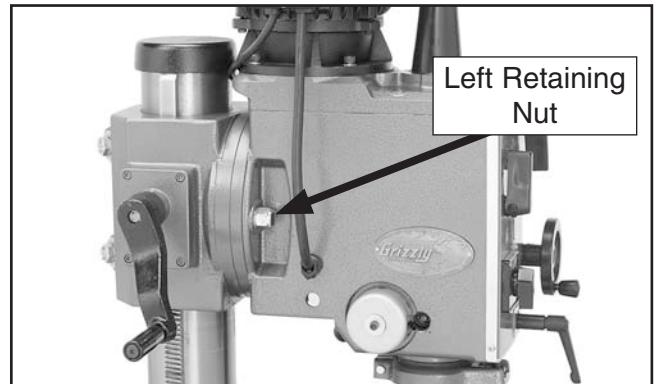

Figure 37. Left retaining nut location.
4. Using a 24mm wrench, loosen the two headstock retaining nuts (**Figure 37–38**).